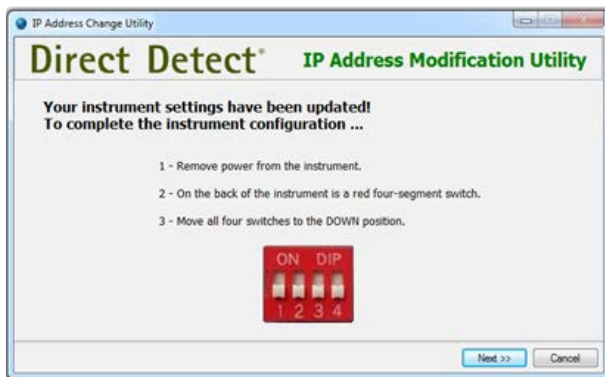

Figure 21. Successful reconfiguration to intranet connection
6. Unplug the instrument from the power source, then change the switches in the red 4-position DIP switch (6H in Figure 6) on the rear of the instrument so that all four are in the **DOWN** position (refer to Figure 21).